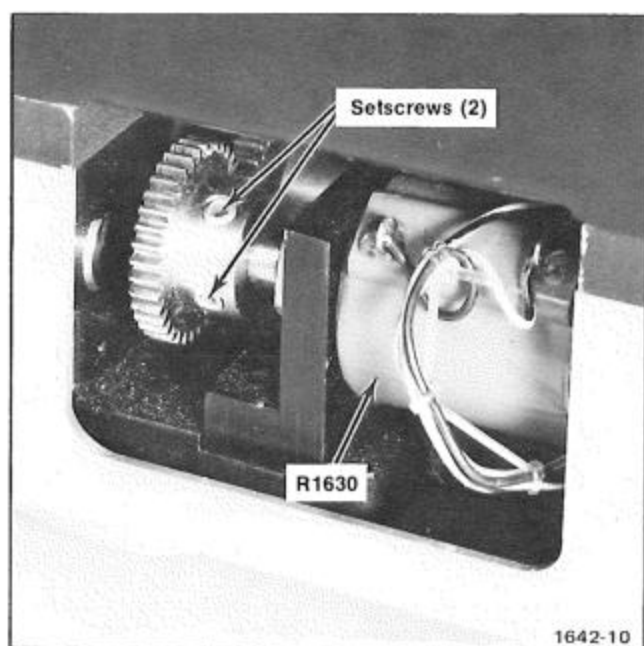

Fig. 5-5. Location of gear-train adjustment for Grating B wavelength.
e. ADJUST—Loosen the setscrews (use 1/16" Allen wrench) in the gear on the rear of the GRATING B WAVELENGTH INTERVAL potentiometer R1630 and move the gear away from the potentiometer to disengage the gear from the remainder of the gear train. See Fig. 5-5. Using a pair of needle-nose pliers, turn the shaft that extends out of the rear of R1630 until the wavelength marker readout reads 302 nm. Re-engage the gear with the gear train and tighten the gear setscrews.